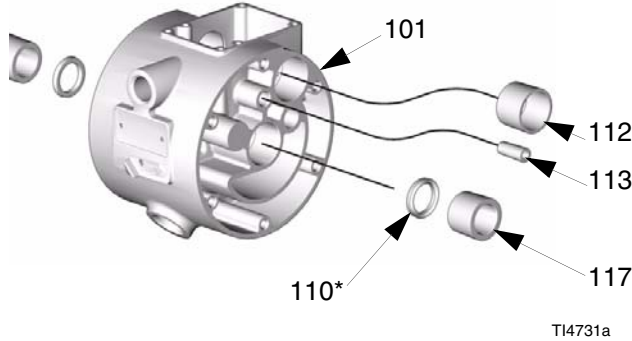

FIG. 22
8. Inspect the diaphragm shaft (121) for wear or scratches. If it is damaged, inspect the bearings (117) in place. If the bearings are damaged, refer to **Bearing and Air Gasket Removal** on page 23.
9. Reach into the center housing (101) with an o-ring pick and hook the u-cups (110), then pull them out of the housing. This can be done with the bearings (117) in place. See FIG. 22.
8. If you removed the diaphragm shaft bearings (117) reach into the center housing (101) with an o-ring pick and hook the u-cups (110), then pull them out of the housing. Inspect the u-cups. See FIG. 22. Replace parts as needed.